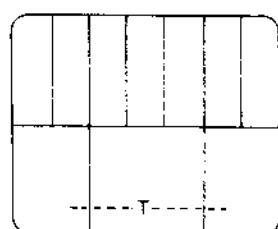

Fig. 5-7 On the TV screen
- 3) Press the TRACKING button < or > on the front panel until "T" mark can be seen in the center position as shown in Fig. 5-7.